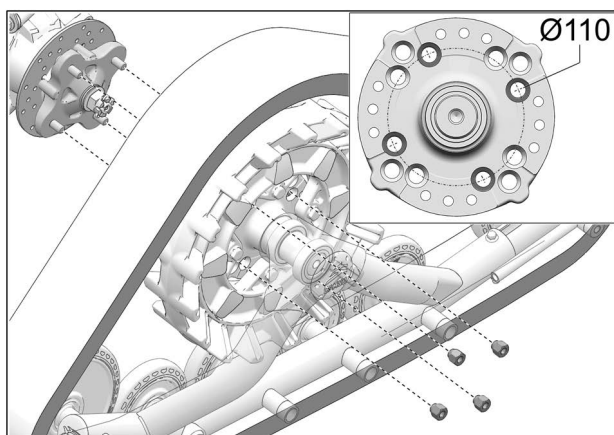

Fig. 22
8. Secure undercarriage to front hub using the vehicle's own lug nuts. Use bolt circle $\varnothing 110$ mm. See Fig. 22